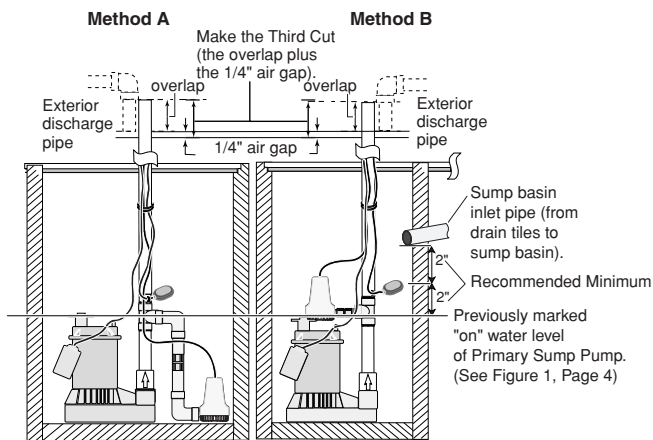

Figure 8 – Make the third cut to remove the excess discharge pipe
- Make the third cut. See Figure 8.